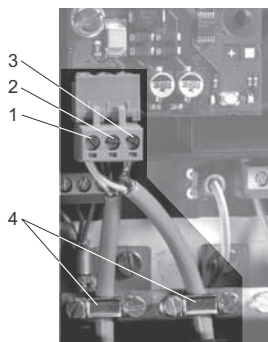

Fig. 2 Connecting the LON
See fig. 2.
1. Connect the conductors to terminal A (pos. 1).
2. Connect the conductors to terminal B (pos. 2).
3. Connect the twisted screen ends to terminal "Screen" (pos. 3).
The screen must only be connected to the screen terminal of the CIM 1XX LON module. See fig. 2, pos. 3.
The cable screen must never be connected to earth via the earth clamp. See fig. 2, pos. 4.